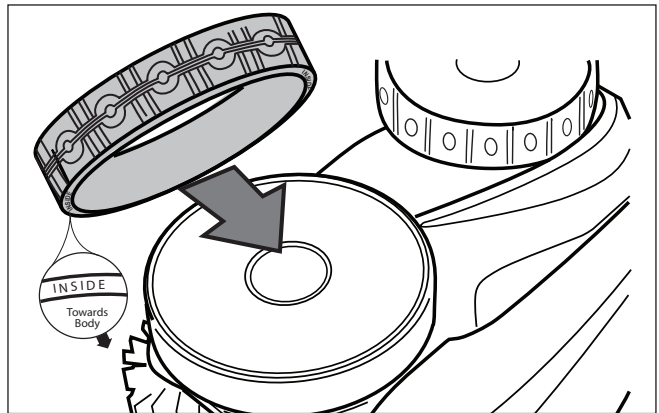

Figure 30. Tyre Replacement Orientation
3. Remove the old tyre. See Figure 30.
4. To replace the tyre, position the tyre on the wheel making sure to orient the tyre so that the word **INSIDE** is toward the body of the cleaner (Figure 30).